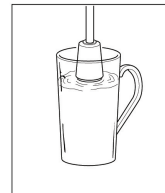

FIGURE 6
7. Immerse the swivel jet frother into the milk down to the mark on the cappuccino nozzle. (Figure 6)